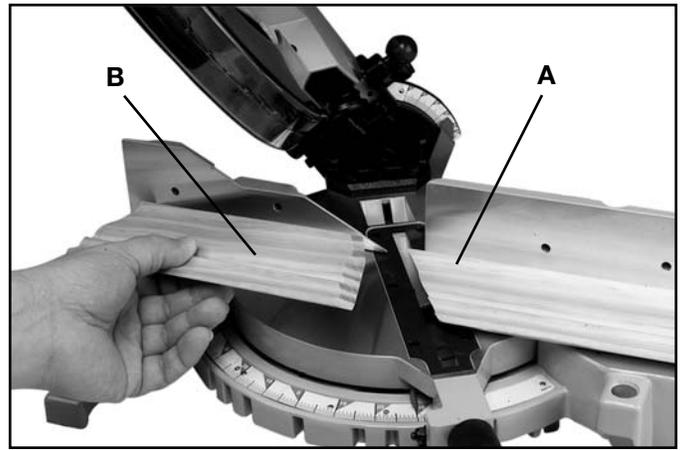
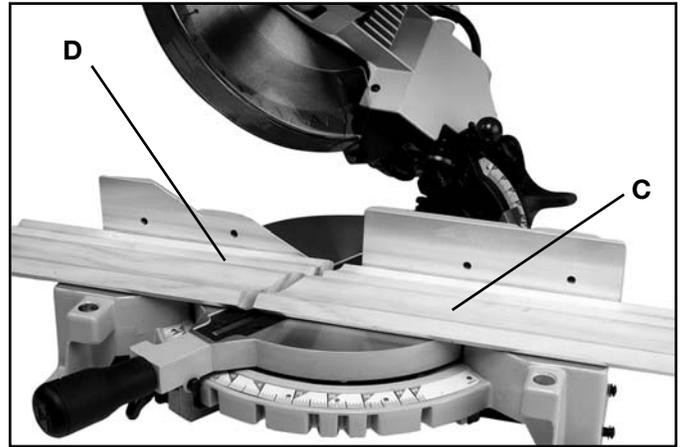
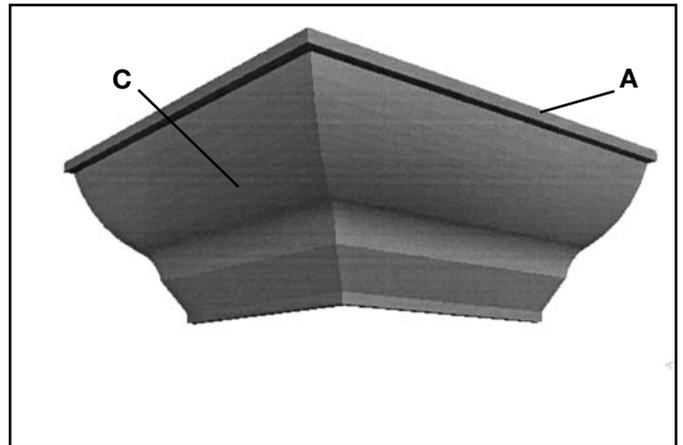
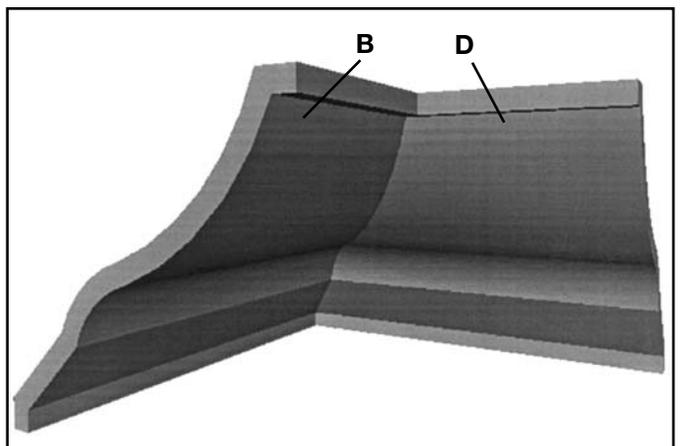

Fig. 44
Fig. 45
Fig. 46
Fig. 47
3. Place the crown moulding on the table with the **CEILING EDGE** of the moulding against the fence, and make the cut, as shown in Fig. 44. **NOTE:** The piece of crown moulding used for the outside corner will always be on the right hand side of the blade, as shown at (A) Fig. 44. The piece of crown moulding used for the inside corner will always be on the left hand side of the blade, as shown at (B) Fig. 44.
5. Place the crown moulding on the table with the **WALL EDGE** of the crown moulding against the fence as shown in Fig. 45, then make the cut. Again, the piece of crown moulding used for the outside corner will always be on the right side of the blade, as shown at (C) Fig. 45. The piece of crown moulding used for the inside corner will always be on the left side of the blade, as shown at (D) Fig. 45.
6. Fig. 46, illustrates the two outside corner pieces; (A) being the piece cut at (A) Fig. 44, and (C) being the piece cut at (C) Fig. 45.
7. Fig. 47, illustrates the two inside corner pieces; (B) being the piece cut at (B) Fig. 44, and (D) being the piece cut at (D) Fig. 45.